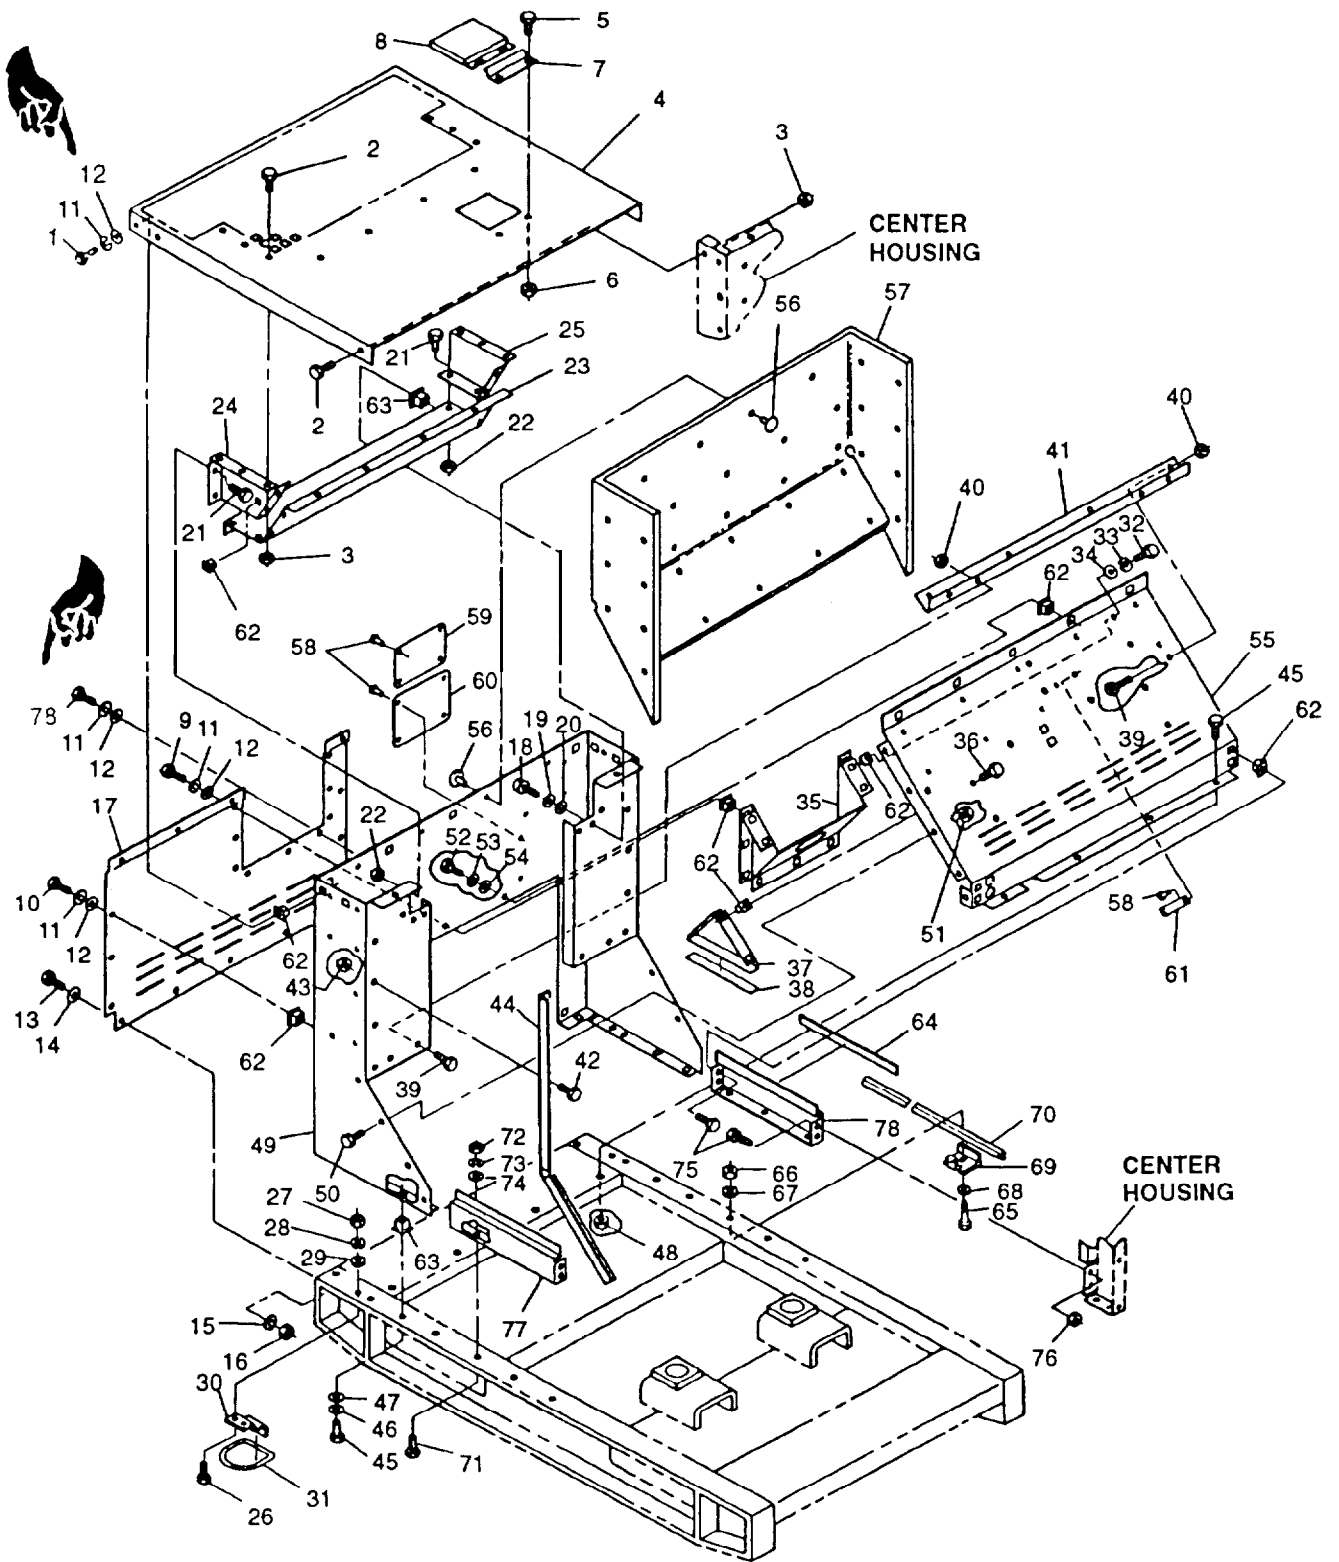

FIGURE 2-8. Generator Set Front Housing Section
- c. Remove bolts (1, Figure 2-8), bolts (2), washers (11, 12), nuts (3), and top housing panel (4).
- d. Remove bolts (5), nuts (6), bracket (7), and exhaust door (8) from top housing panel (4).
- b. Inspect top housing panel (4, Figure 2-8), exhaust door (8) and bracket (7) for dents, cracks, loose paint, and corrosion.
- a. Install exhaust door (8, FIGURE 2-8) and bracket (7) to top housing panel (4) with bolts (5) and nuts (6)
- b. Install top housing panel (4) on generator set with bolts (1 and 2), washers (11, 12), and nuts (3)
- c. Remove bolts (9, FIGURE 2-8), bolts (10), lockwashers (11), and washers (12).
- d. Remove bolts (13), washers (14), lockwashers (15), and nuts (16).
- e. Remove screws (78) and washers (11, 12).
- f. Remove front housing panel (17).
Inspect front housing panel (17, FIGURE 2-8) for dents, cracks, loose paint, and corrosion.
- a. Install front housing panel (17, FIGURE 2-8) on generator set with bolts (13), washers (14), lockwashers (15), and nuts (16).
- b. Install bolts (9 and 10), lockwashers (11), and washers (12).
- d. Remove bolts (18, FIGURE 2-8), lockwashers (19), and washers (20).
- e. Remove bolts (21), nuts (22), and deflectors (23), (24), and (25).
- l. Remove bolts (26, FIGURE 2-8), nuts (27), lockwashers (28), washers (29), front lifting ring brackets (30), and lifting rings (31) from generator set.
- n. Remove bolts (32, FIGURE 2-8), lockwashers (33), washers (34), and filler neck panel (35) from air deflector (55).
- o. Remove bolts (36) and fuel tank holddown brackets (37).
- p. Remove bolts (39), nuts (40), and channel (41) from front housing (49) and air deflector (55).
- r. Tag and disconnect electrical leads at fuel level sender (4) and fuel float module (20).
- t. Remove bolts (42, FIGURE 2-8), nuts (43), and door stops (44) from front housing (49).
- c. Check for missing or damaged cage nuts (62, FIGURE 2-8) and (63).
- d. Inspect door seals (64) for looseness or damage.
- e. Inspect cotton webbing (38) for looseness or damage.
- f. Inspect sound insulation (57) for damage and missing clip halves (56).
- c. Repaint surface in accordance with TM 43-0139. (F) Refer to applicable directives.
- d. Replace all missing or damaged cage nuts (62, FIGURE 2-8) and (63).
- e. Replace damaged door seals (64).
- f. Replace damaged sound insulation (57) and missing clip halves (56). If necessary, refer to Appendix D to make sound insulation.
- a. If removed, install external fuel supply plate (61, FIGURE 2-8), set rating plate (60), and identification plate (59) with new rivets (58).
- b. Install door stops (44) on front housing (49) with bolts (42) and nuts (43).